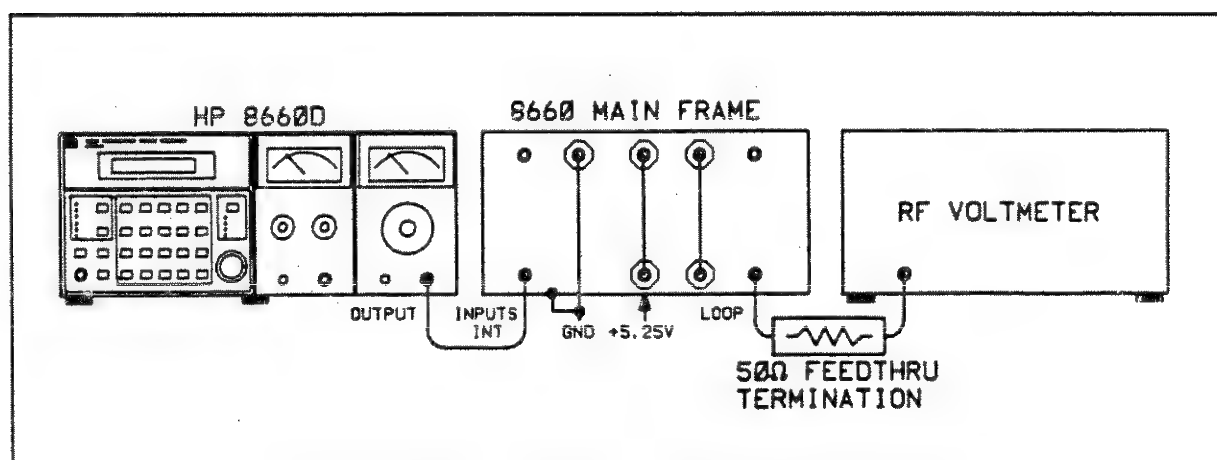

Figure 5-9. A22A1 Adjustment Test Setup (After Repair)
1. Connect equipment as shown in Figure 5-9. The +5.25 Vdc source must be connected to the junction of the inductor and feedthrough capacitor. The ground return must be connected to the chassis and the feedthrough capacitor.